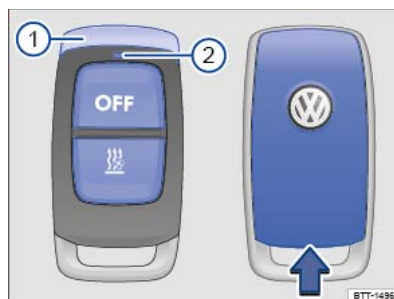

Fig. 112 Auxiliary heater: remote control (left) with battery compartment (right).
-  m/k/a995MK Switch on: press the  button $\Rightarrow$ Fig. 112.
-  m/k/a995MK Switch off: press the **OFF** button $\Rightarrow$ Fig. 112.
The LED $\Rightarrow$ Fig. 112 ② indicates various operating states after you press a button.
- Hold the remote control with the aerial $\Rightarrow$ Fig. 112 ① pointing vertically upwards.
- Insert a suitable object, e.g. a screwdriver, in the recess on the side $\Rightarrow$ Fig. 112 in the direction of the arrow.
- Push the battery cover in the opposite direction to the arrow ⇒ *Fig. 112* until it engages.